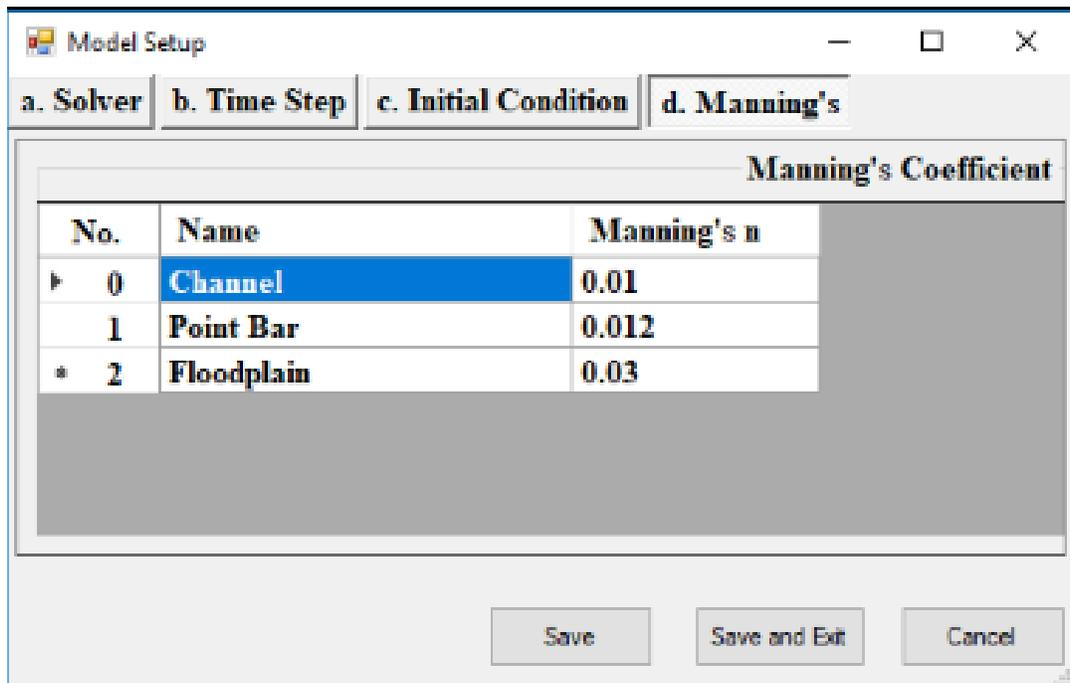

Figure 3-37. Manning's coefficients setup in model setup form.
4. Click on the Manning's tab and input the parameters (Figure 3-37). Input Manning's coefficients for each roughness zone. Refer to Section 3.4.22 to define each roughness zone.